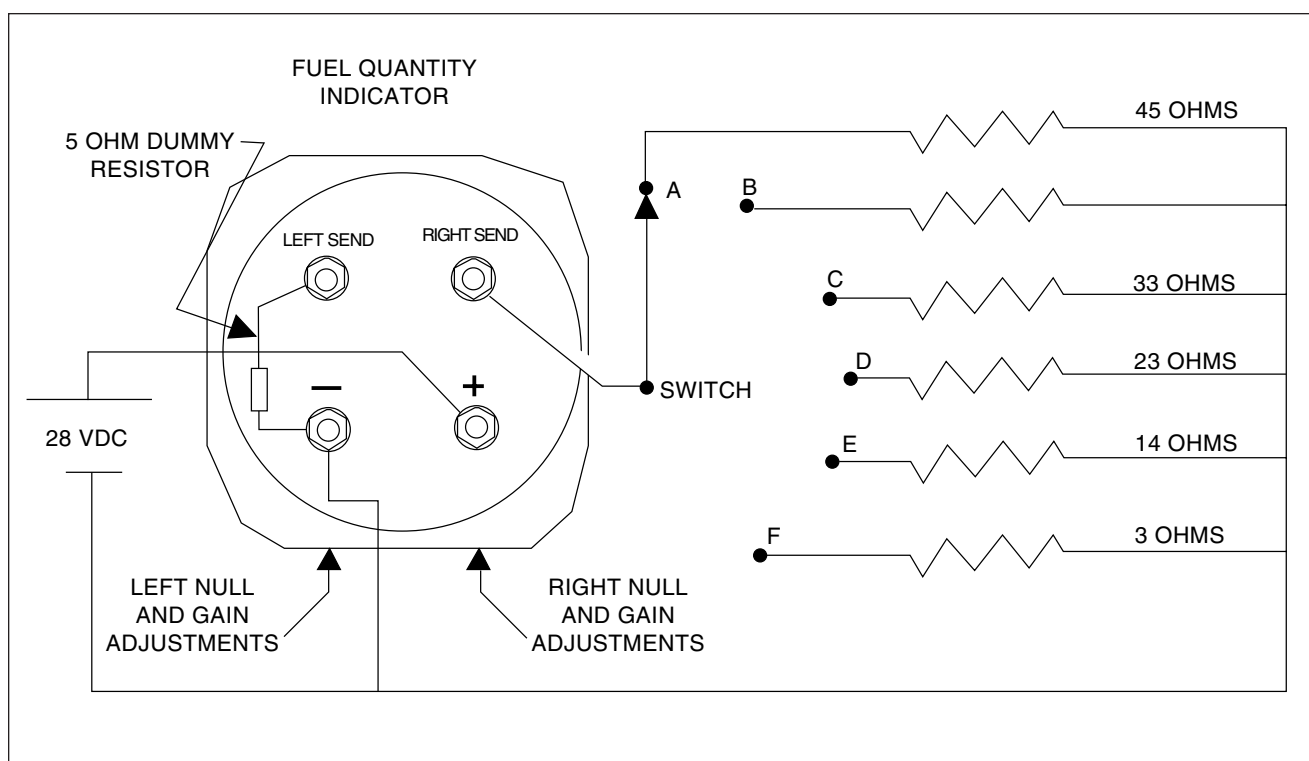

Figure 9-4. Resistance Decade Test Box Set Up
A. Connect a 5 Ω resistor between the ground terminal (GND) and left or right sender terminal, appropriate to side not being tested. (Refer to Figure 9-4)
B. Connect resistance decade to the left or right sender terminal, appropriate to side being tested. (Refer to Figure 9-4)
C. Apply 28 Vdc, through the resistance decade, to the ground (GND) and positive (+) terminals. (Refer to Figure 9-4)
D. Low end adjustment: (Refer to Figure 9-4)
(1) Select position **F** on resistor decade switch.
(2) Verify the appropriate instrument needle points to zero (0).
(3) If needle does **not** point to 0, adjust **NULL** potentiometer, located on bottom of instrument below side being tested, to center needle on 0.
E. High end adjustment: (Refer to Figure 9-4)
| (1) See Figure 9-4(2) See Figure 9-4 |                    |                  |   |
### 9-22. FUEL FILTER BOWL AND SCREEN. (Refer to Figure 9-4.)